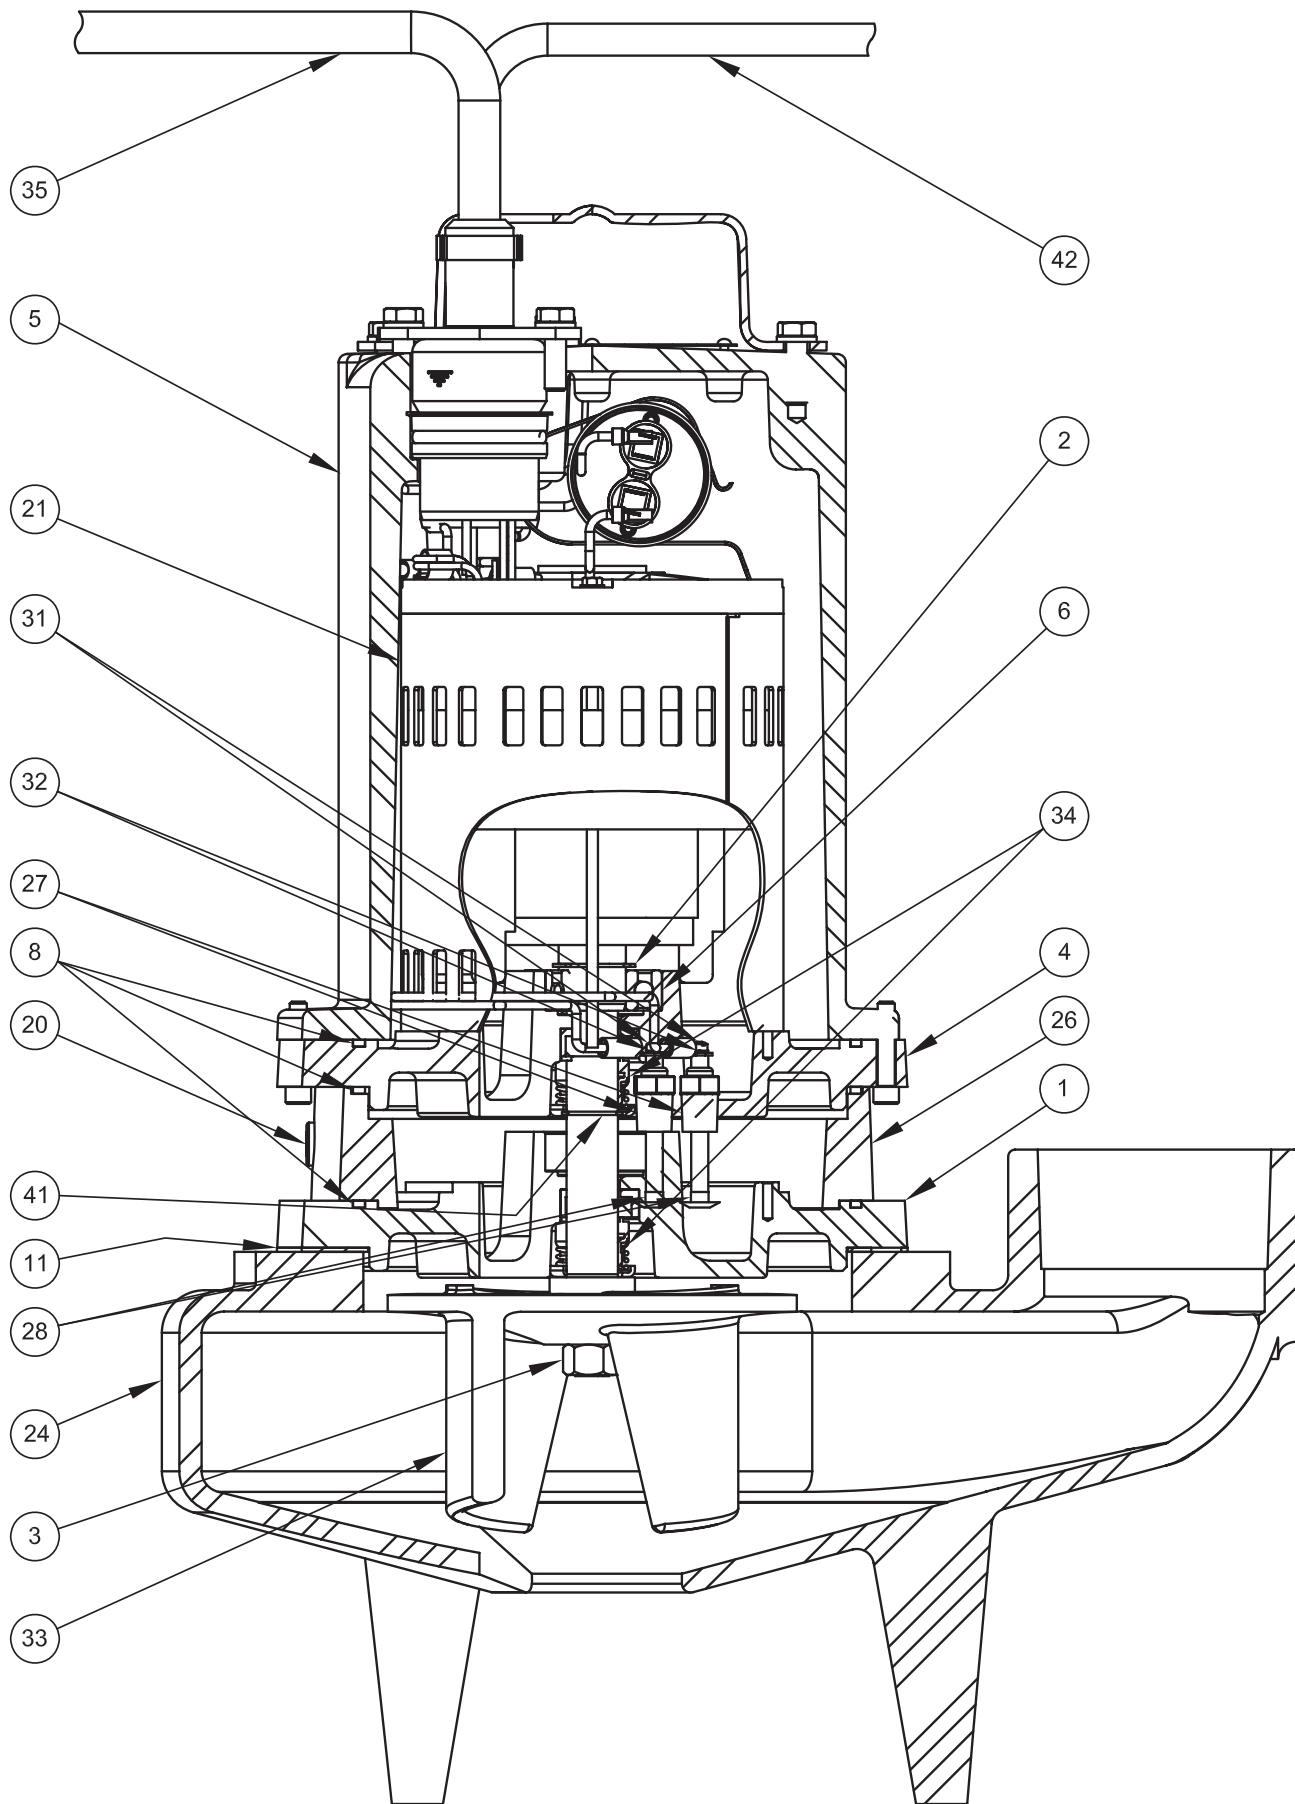

FIGURE 11
To clean out volute (24) or replace impeller (33), disconnect power, remove screws (13), and lockwashers (12), vertically lift motor and seal plate assembly from volute (24). Clean out volute if necessary. Clean and examine impeller (33), for pitting or wear and replace if required, inspect gasket (11) and replace if cut or damaged. If the impeller (33) needs replacing, remove nut (3), place a flat screwdriver in the slot of the end of the shaft to hold the shaft stationary while unscrewing the impeller (33). (See Figure 11 or 12)
To install impeller (33), screw impeller onto the shaft hand tight. Clean the threads with Loctite cleaner. Apply thread locking compound to shaft threads and install nut (3). Torque to 40 ft. lbs. Rotate impeller to check for binding. Position gasket (11) on volute flange and position impeller and motor housing on volute (24). Position lockwashers (12) on cap screws (13) and screw into volute (24). Torque to 8 ft. lbs. Check for free rotation of motor and impeller. (See Figure 11 or 12)